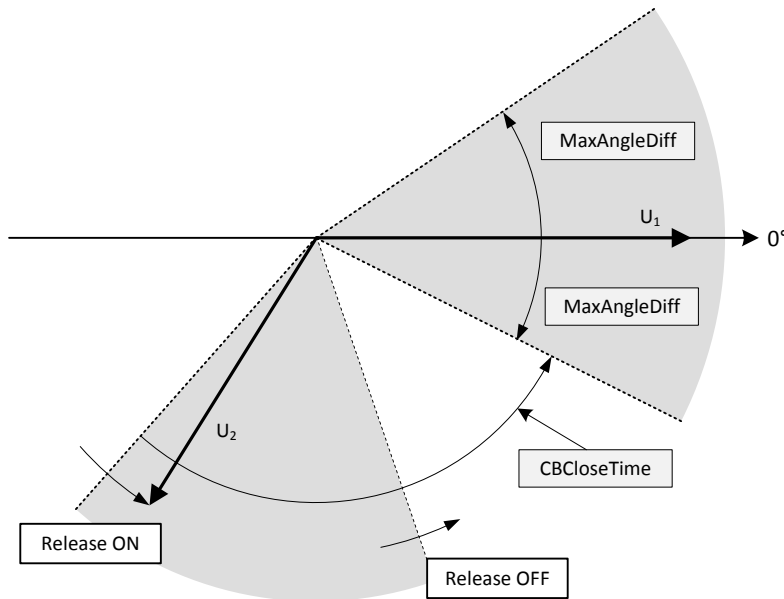

Figure 5.65. Asynchronous mode.
- ◆ the phase angle difference between voltages **U1** and **U2** at the time the circuit breaker poles close is less than setting **ManMaxAngleDiff** (manual commands) or **AutoMaxAngleDiff** (automatic commands). The function determines the adequate time interval to release the close command based on the circuit breaker close time and on the phase angle rate-of-change calculated from the slip frequency and its corresponding rate-of-change (as shown in Figure 5.65).